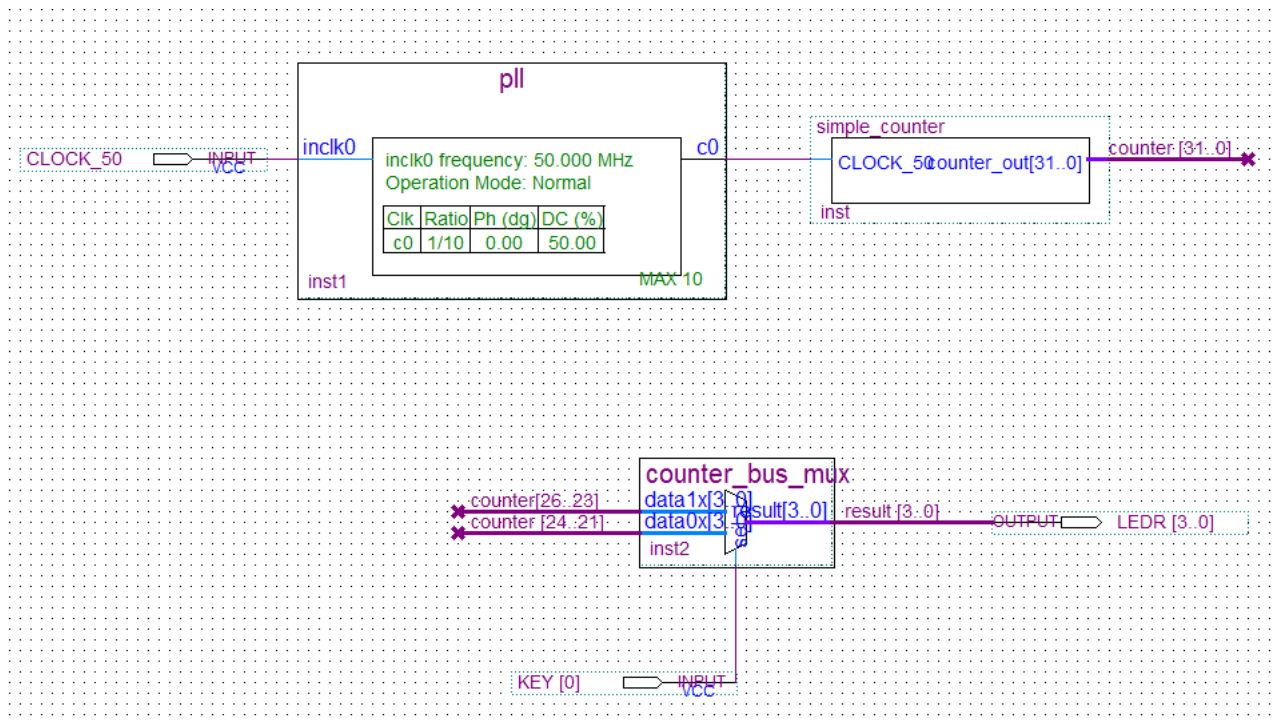

Figure 3-28 Adding the KEY [0] Input Pin
22. Rename the input pin as KEY [0] (see **Figure 3-28**).